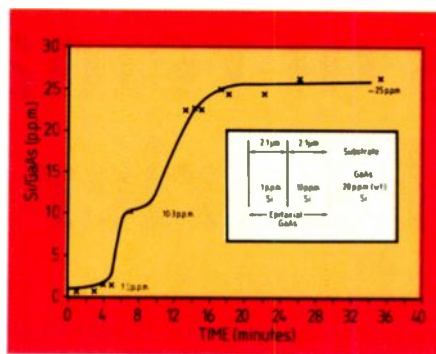

Fig.6. Analysis of silicon surface films on GaAs substrate.
and (c) at 20 ppm approximately in the substrate. The results in Fig. 6 show excellent agreement between the VG 9000 and the quoted values.
**Fig. 6. The fundamental angular periodicity in the trigonometrical functions amounts to multiples of  $2\pi$  radians. Generalizing to any interval is useful and necessary and we do it as shown here.**
sents and  $\theta/2\pi$  indicating the same fraction of the period, written as an angle. Figure 6 shows that these two fractions describe the same point P and so are equal,